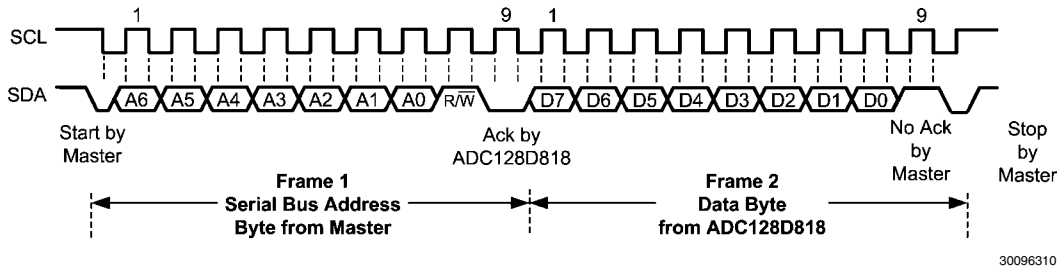
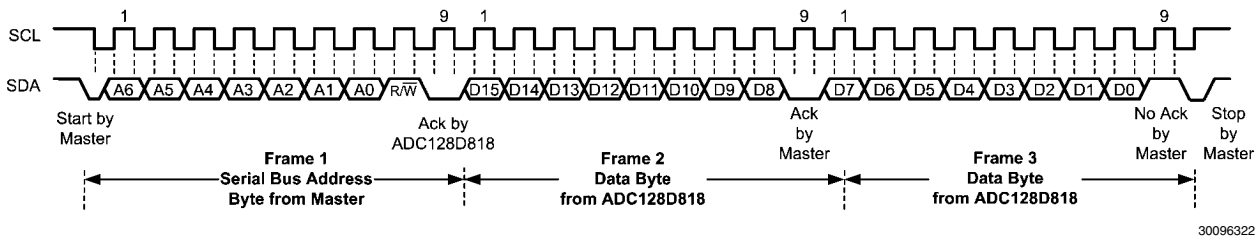
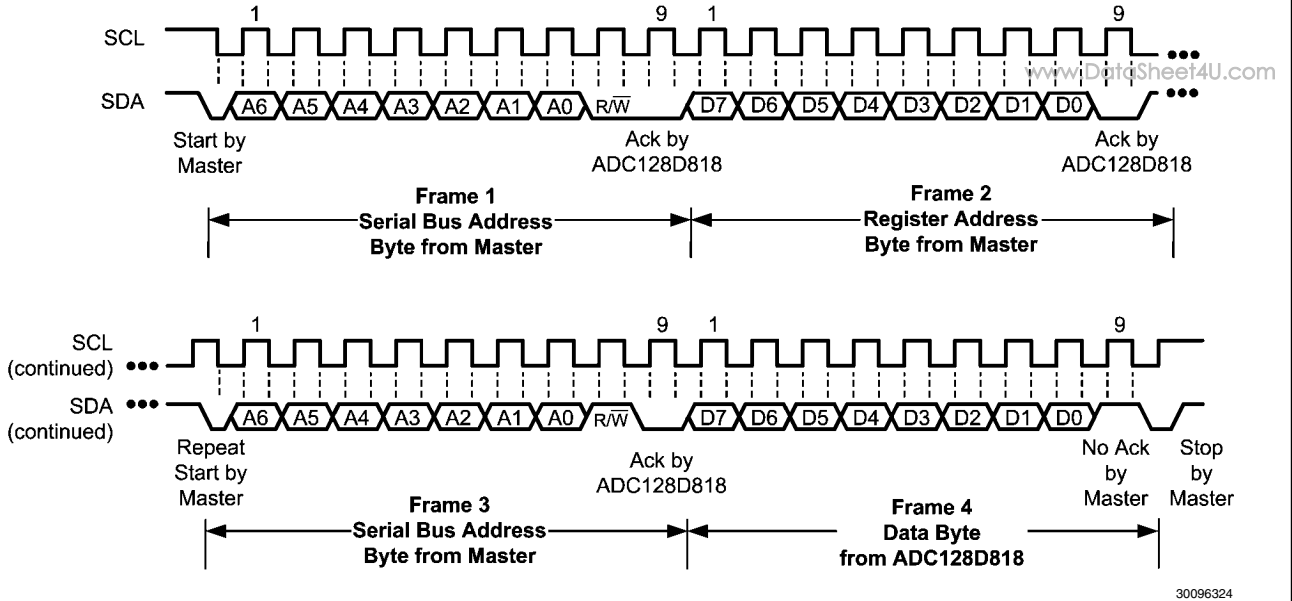
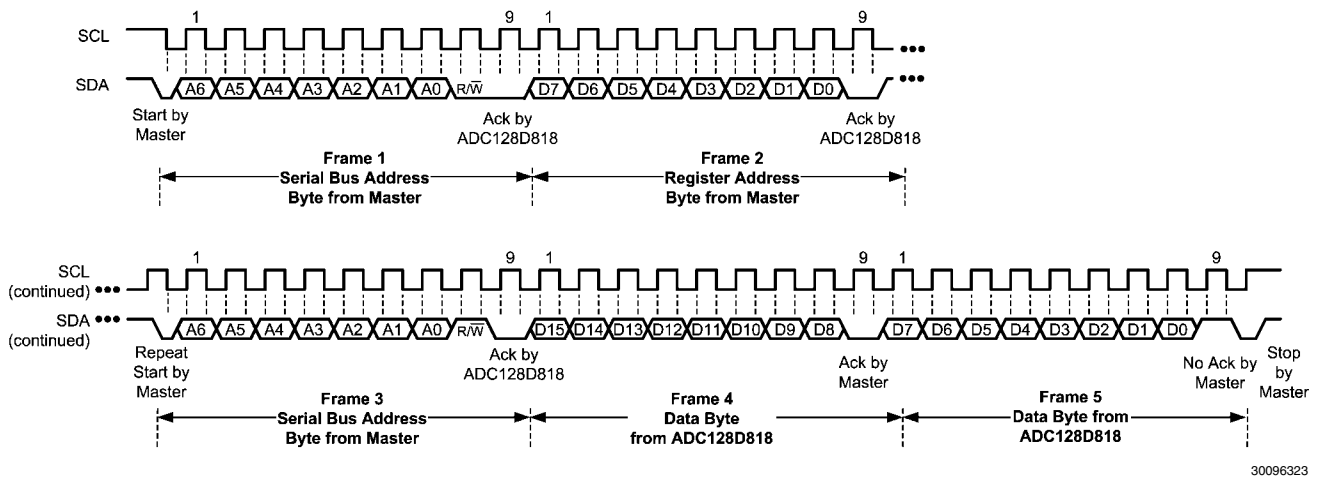

FIGURE 8. Serial Bus Interface Read Example 1 - Single Byte Read with Preset Internal Address Register.
FIGURE 9. Serial Bus Interface Read Example 2 - Double Byte Read with Preset Internal Address Register.
FIGURE 10. Serial Bus Interface Read Example 3 - Single Byte Read with Internal Address Set using a Repeat Start.
FIGURE 11. Serial Bus Interface Read Example 4 - Double Byte Read with Internal Address Set using a Repeat Start.
1. If the Register Address is known to be at the desired address, simply read the ADC128D818 with the Serial Bus Address byte, followed by the Data byte read from the ADC128D818. Examples of this type of read can be seen in *Figure 8* and *Figure 9*.
2. If the Register Address value is unknown, write to the ADC128D818 with the Serial Bus Address byte, followed by the desired Register Address byte. Then restart the Serial Communication with a Read consisting of the Serial Bus Address byte, followed by the Data byte read from the ADC128D818. See *Figure 10* and *Figure 11* for examples of this type of read.
27h). This register is 16-bit wide, and thus, all 9 bits of the temperature reading can be read using a double byte read (Figure 9 or Figure 11). The following figure and the table below it show the theoretical output code ( $D_{OUT}$ ) vs. temperature and some typical temperature-to-code conversions.